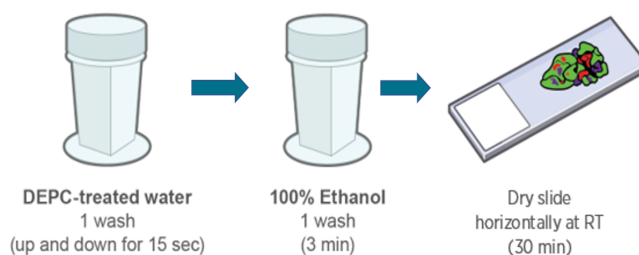

Figure 11: Ethanol Wash
7. Immediately transfer all slides to staining jar containing fresh DEPC-treated water. Move slides up and down for 15 seconds to wash slides (see Figure 11).